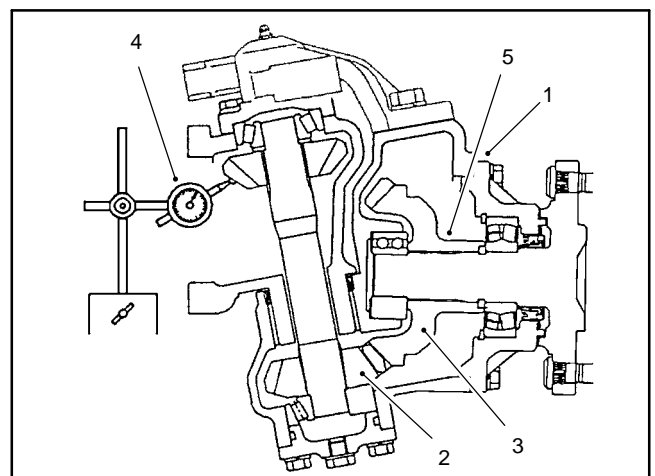

Figure 26
9. Remove the bevel gear case/axle case assembly from the axle support. Coat a new O-ring with grease and temporarily install the axle cover assembly. Position a dial indicator at the tooth center. Prevent the axle from turning and measure the lower bevel gear to axle gear backlash (Fig. 26).